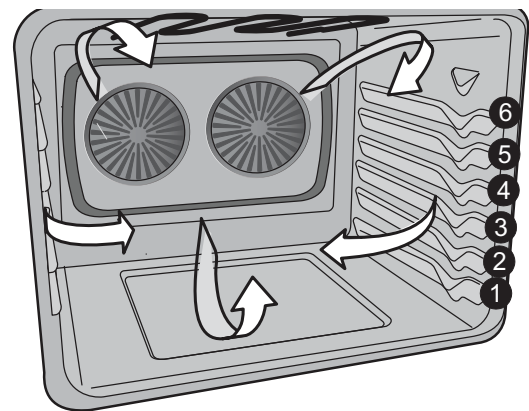

Figure 11: Rack positions
2. Place pan in oven on rack position 3 (Figure 11) and close oven door. AccelaHeat™ is designed for baking on a single oven rack placed in the center of the oven.